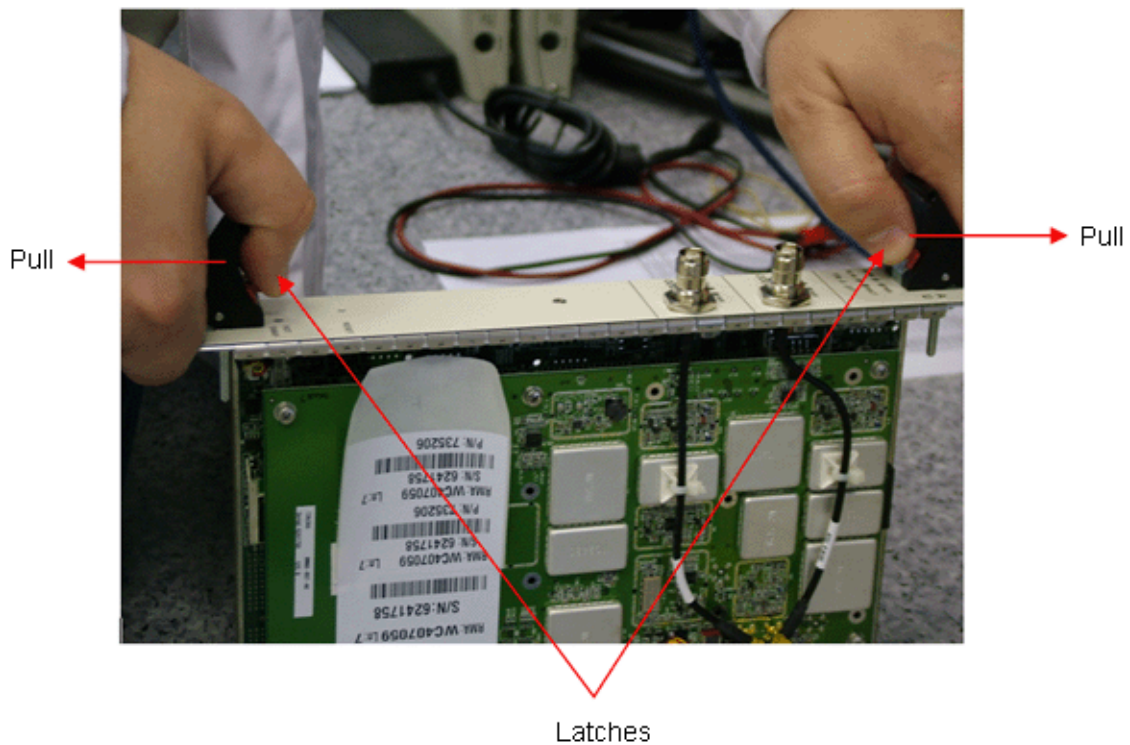

Figure 5-5: Releasing the Ejector Handles
- 1 Release the top and bottom ejector handles by pressing the red latches and pulling the ejector handles in the direction of the arrow (see Figure 5-5).